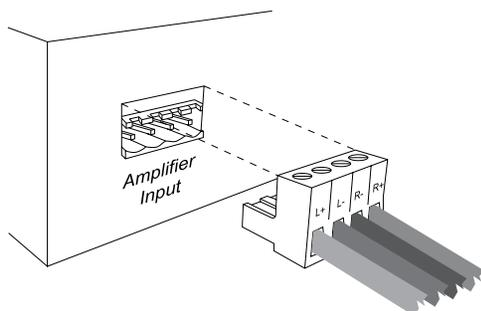

Figure 2
4. Install the connectors to the SP4-50 / SP6-50 (**Figure 2**).